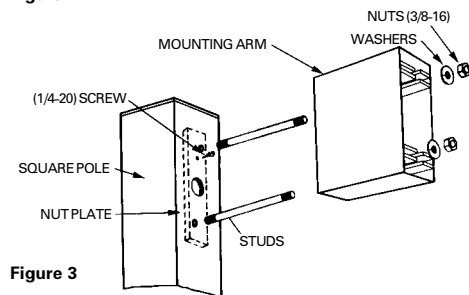

Figure 3
1. Install nut plate (see figure 3) **inside** pre-drilled pole. Secure nut plate to inside of pole with screw provided.
2. Install the two (2) studs ensuring that they fully penetrate the nut plate.